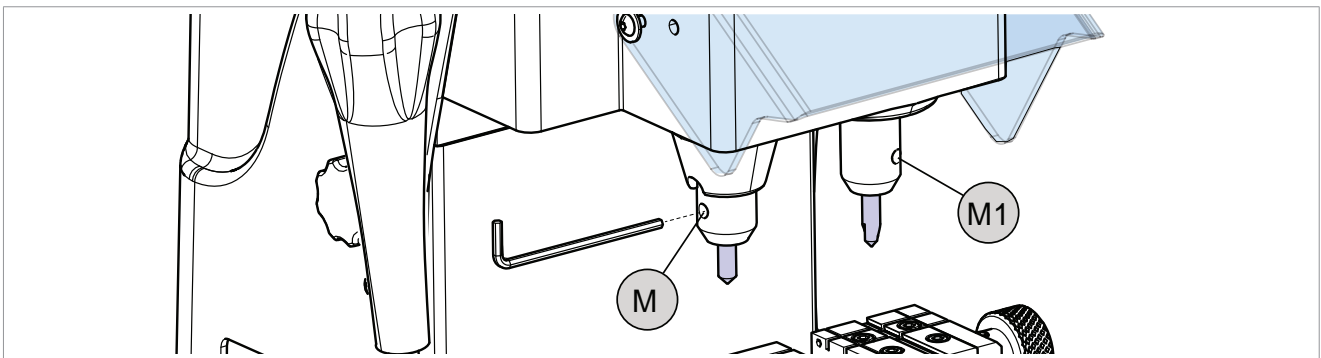

Fig. 10
- 1) Place the tracer point all the way into the left-hand sleeve and secure by tightening the grub screw (M) (Fig. 10).